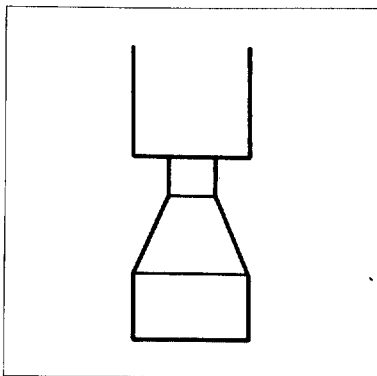

Fig.9-30
- ① Standard push rod (Fig.9-30)